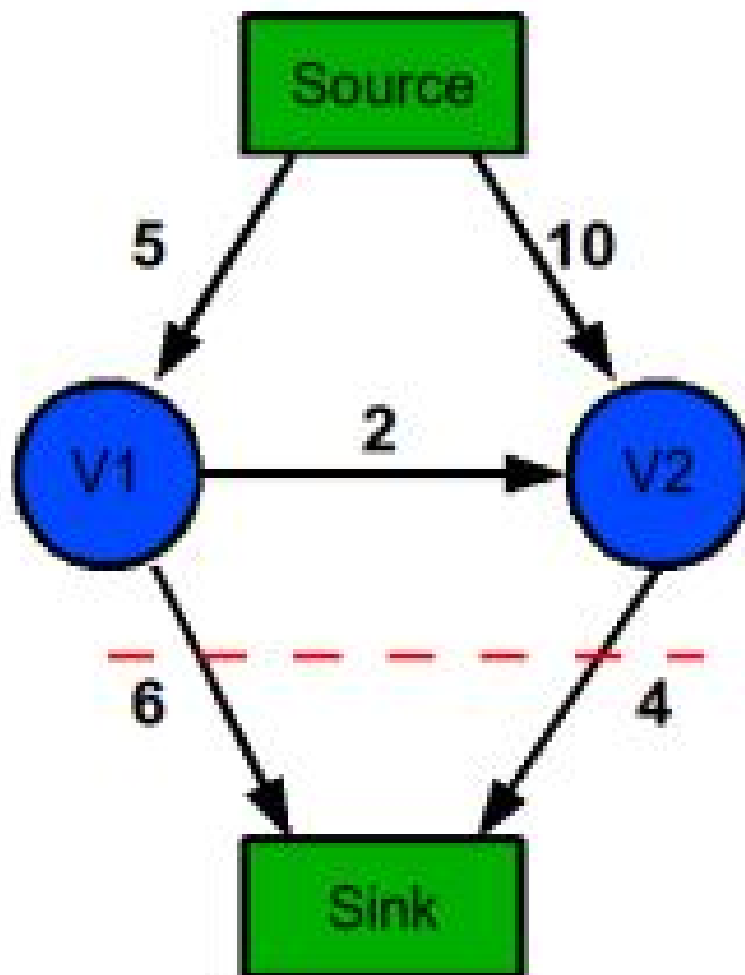

Figure 9.11
**Definition 9.7** (Cut). A cut  $C(S, T)$  of flow network  $G = (V, E)$  is a partition of set of vertices  $V$  into two sets disjoint sets  $S$  and  $T$ . Capacity of a cut is the capacity of edges going from vertices belonging to  $S$  to vertices belonging to set  $T$ . This is shown in figure 9.11. And, capacity of this cut is 10.